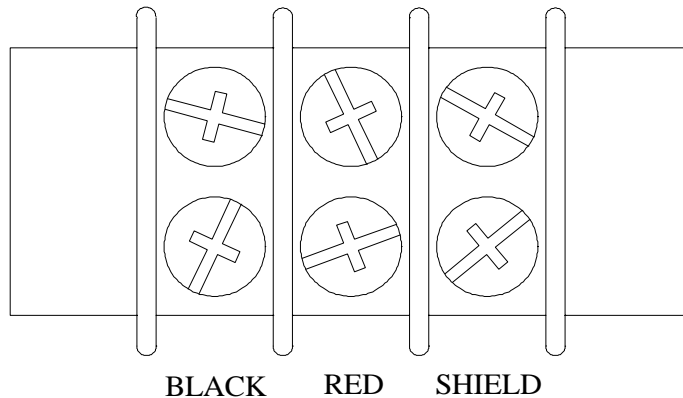

Figure 11 T1 WIRING DIAGRAM
3. Connect the control cable to terminal strip T1 (located to the left of the test jack S14) according to the diagram in figure 11.